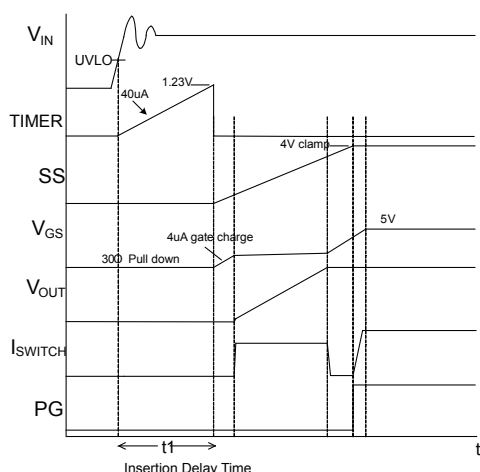

Figure 5—Start-Up Sequence
For hot-swappable applications, the input of the MP5021B can experience a voltage spike or transients during the hot-plug procedure. This spike is caused by the parasitic inductance of the input trace and the input capacitor. In order to stabilize the input voltage, an insertion delay is implemented before the MP5021B main FET is turned on. TIMER charges the external capacitor (C_T) through a 38.5μA constant current source when the input voltage reaches the UVLO threshold (see Figure 5). The insertion delay finishes when the TIMER voltage reaches 1.23V. The capacitance of C_T can be determined using Equation (2):